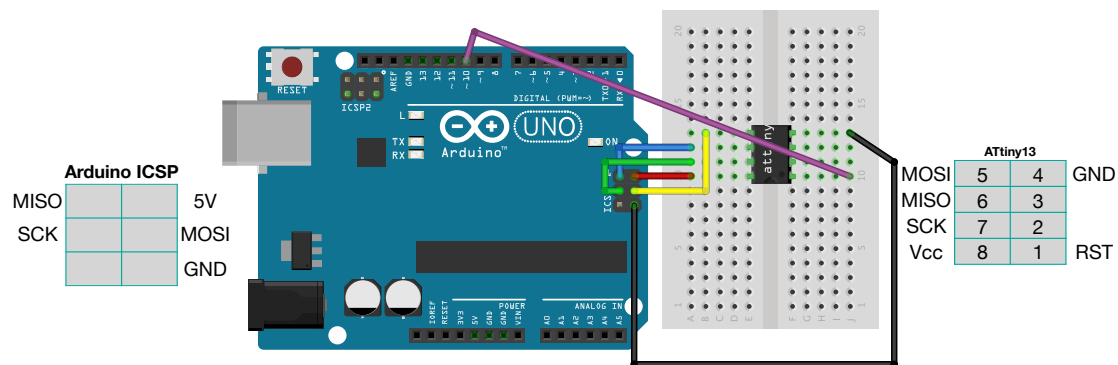

Figure 1: Arduino used as In-Circuit Programmer (ISP) to program the ATtiny
- i. To get started, hook up the Arduino as Master and the ATtiny as slave as shown in Figure 1.